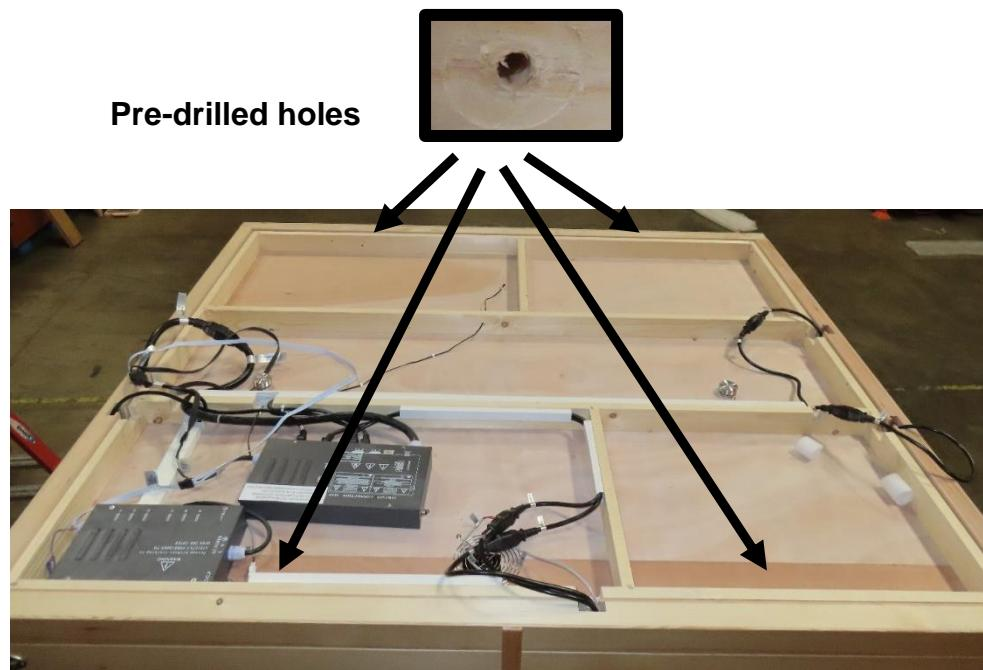

Figure 5
3. You must use the provided screws to secure the roof into place. (see Figure 5)